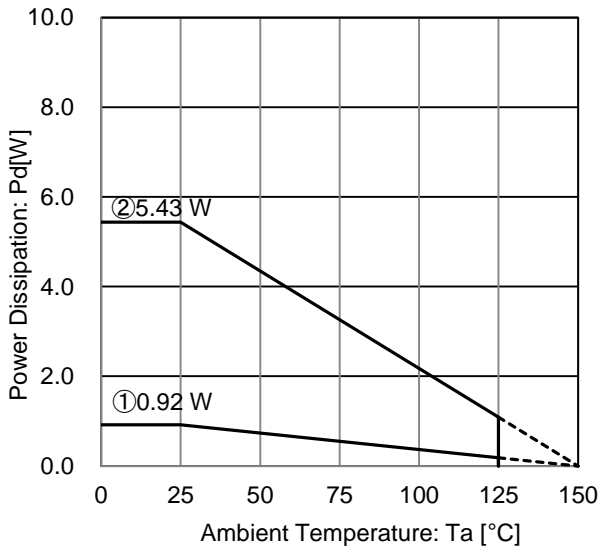

Figure 26. TO252-3 Package Data
At $T_a=125^\circ\text{C}$ with Figure 26 ② condition, the calculation shows that ca 105mA of output current is possible at 10.2V potential difference across input and output.
At $T_a=125^\circ\text{C}$ with Figure 26 ② condition, the calculation shows that ca 127mA of output current is possible at 8.5V potential difference across input and output.